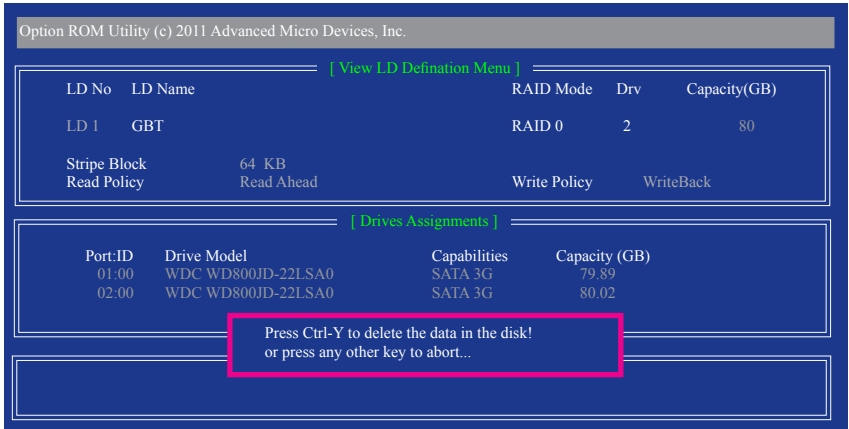

Figure 10
- 2. The **View LD Definition Menu** will appear (as shown in Figure 10) showing which drives are assigned to this array. Press <Ctrl>+<Y> if you are sure to delete the array or other keys to abort.